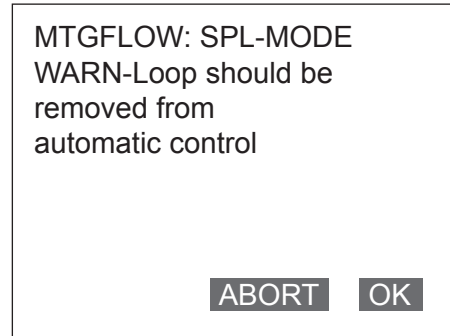

Fig. 7-46.
4. Fig. 7-46. will then appear. By pressing F4 (OK), current adjustment will start and the converter will output a current corresponding to 0% of the flow range. If it is fine, press F4(OK)